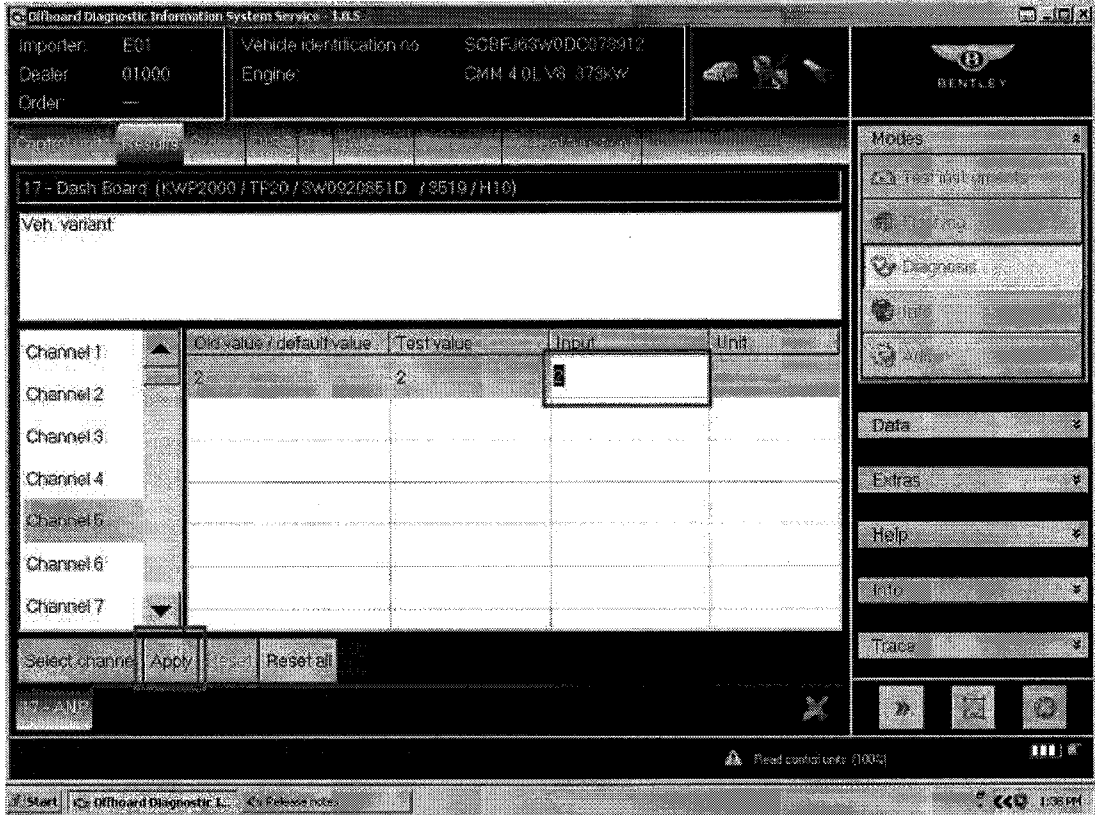

Figure 8
17. Reposition or hide the key board to enable the main screen to be viewed. Check the Input value is correct and then select *Apply* (see Figure 8)